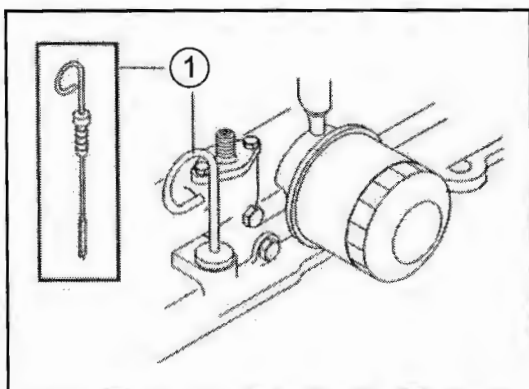

Fig. 34-1 - Oil Dipstick
- Pull out dipstick (1), clean it with a cloth and insert dipstick completely. Remove the dipstick again and check that oil level is between the “L” and “H” marks. (See Fig. 34-1).